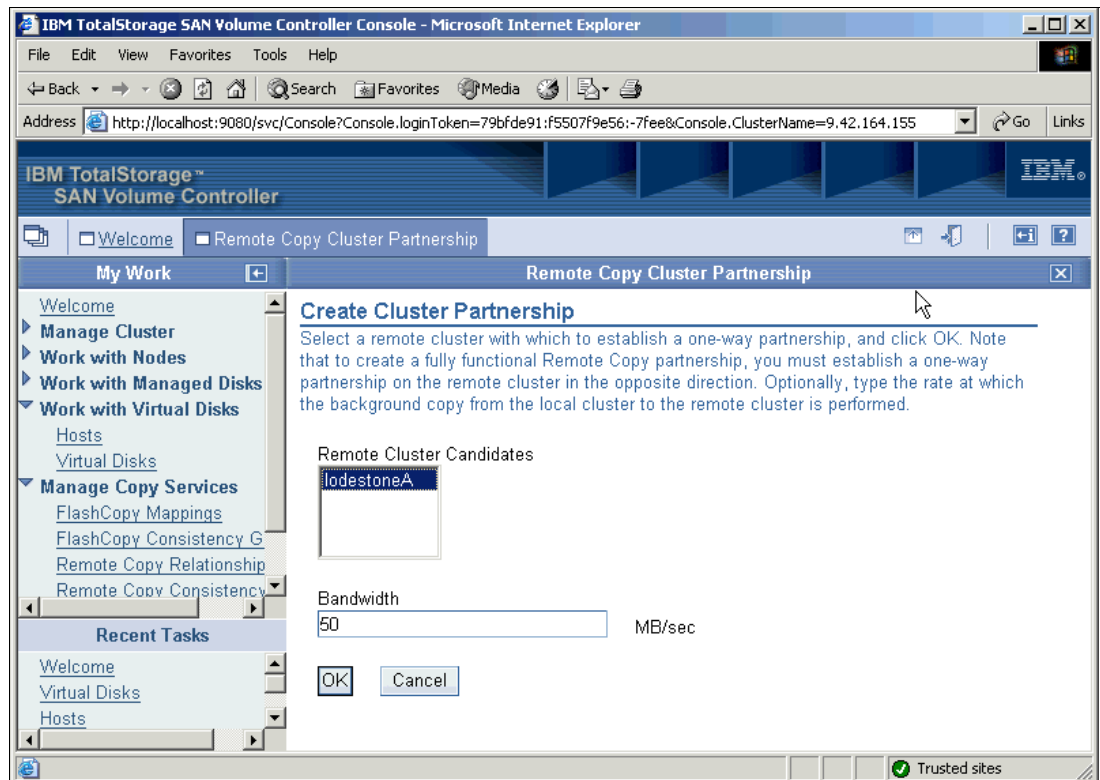

Figure 11-9 Create Cluster Partnership
3. On the Create Cluster Partnership panel (Figure 11-9), select the remote cluster. Enter the bandwidth (MB) for the connection between the clusters and click **OK**.